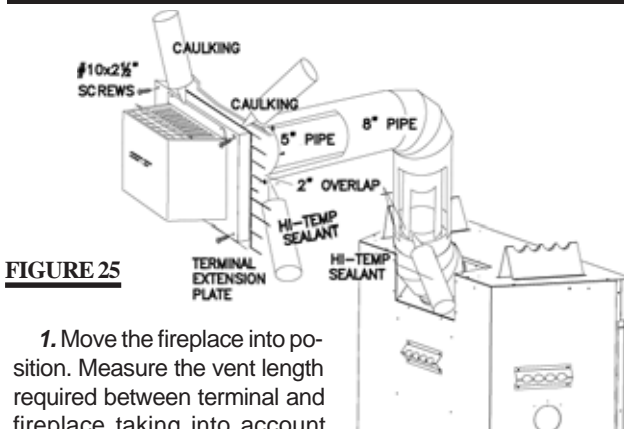

FIGURE 25
4. Apply high temperature sealant to the outer edge of the of the outside sleeve of the air terminal. Slip a 8" diameter coupler over the sleeve and secure as before. **FIGURE 25**. Trim the 8" coupler even with the 5" coupler end.